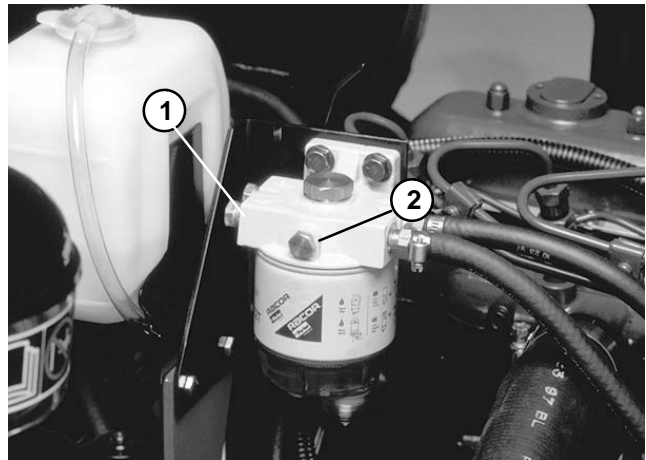

Figure 9
3. Loosen air bleed screw on the top of the fuel filter/water separator (Fig. 9).